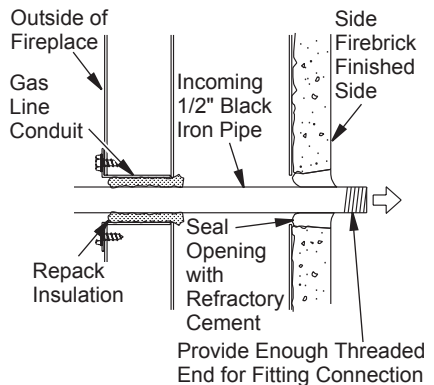

Figure 29 - Gas Line Installation
3. Run 1/2" black iron gas line into the firebox through the rear at 11 1/4" from floor and through gas line conduit sleeve (if using a raised platform, add height). Provide sufficient gas line into firebox chamber for fitting connection (see Figure 29).